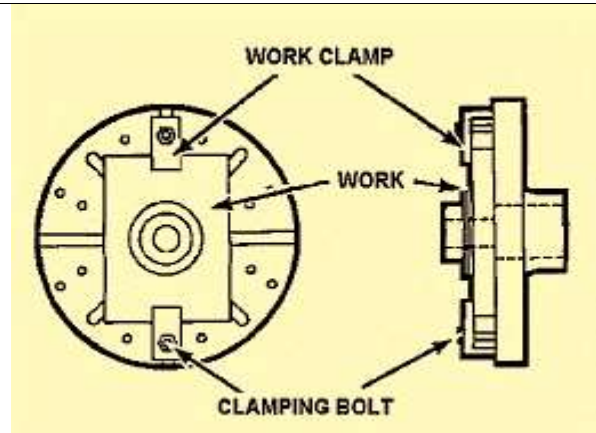

Figure 7-37. Work clamped on faceplate.
**Mounting Work to Faceplates:** Mount faceplates in the same manner as chucks. Check the accuracy of the faceplate surface using a dial indicator, and true the-faceplate surface by taking a light cut if necessary. Do not use faceplates on different lathes, since this will cause excessive wear of the faceplate due to repeated truing cuts having to be taken. Mount the workpiece using T-bolts and clamps of the correct sizes. (Figure 7-37).